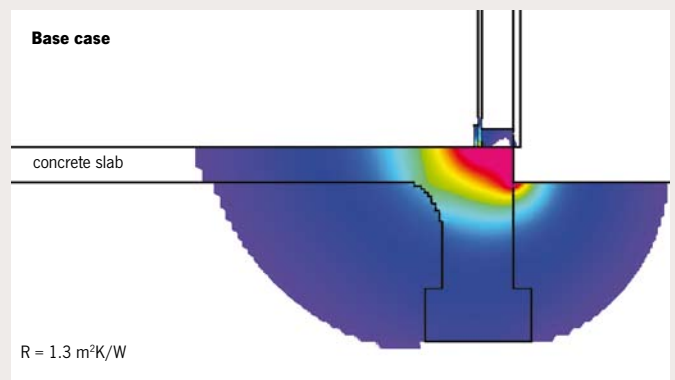

Figure 1: Plain slab (A/P ratio = 2.5, e.g. 10 m x 10 m).
Thermal resistance does not improve significantly by extending insulation from a perimeter of 1.2 m to the full depth, or by increasing its thickness. The reason being that, with no insulation on the perimeter foundations, most of the heat is conducted along the slab and out through the exterior face of the footing (see Figures 1–3).
Figures 1–7 show the results of thermal modelling a simple 10 m by 10 m square floor slab, with an area (A) to perimeter length (P) of  $100/40 = 2.5$ . Because the ground under a slab provides insulation, the primary heat flow path is through the perimeter of the slab. The higher the A/P value, the greater the thermal resistance. This means that larger slabs perform thermally better than smaller slabs.